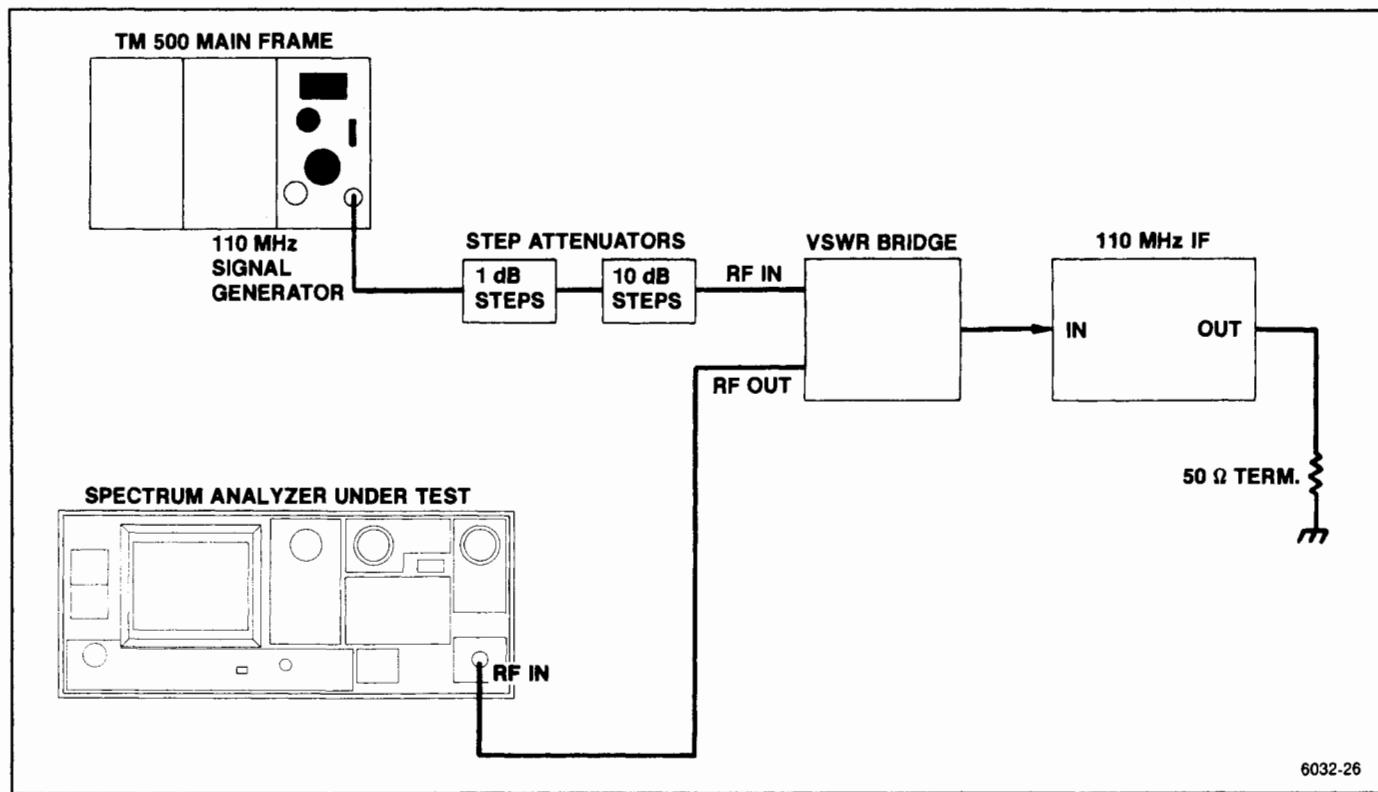

Figure 6-9. 110 MHz IF return loss adjustment setup.
1. Test equipment setup is shown in Figure 6-9. The IF assembly must be removed to gain access to the adjustments.